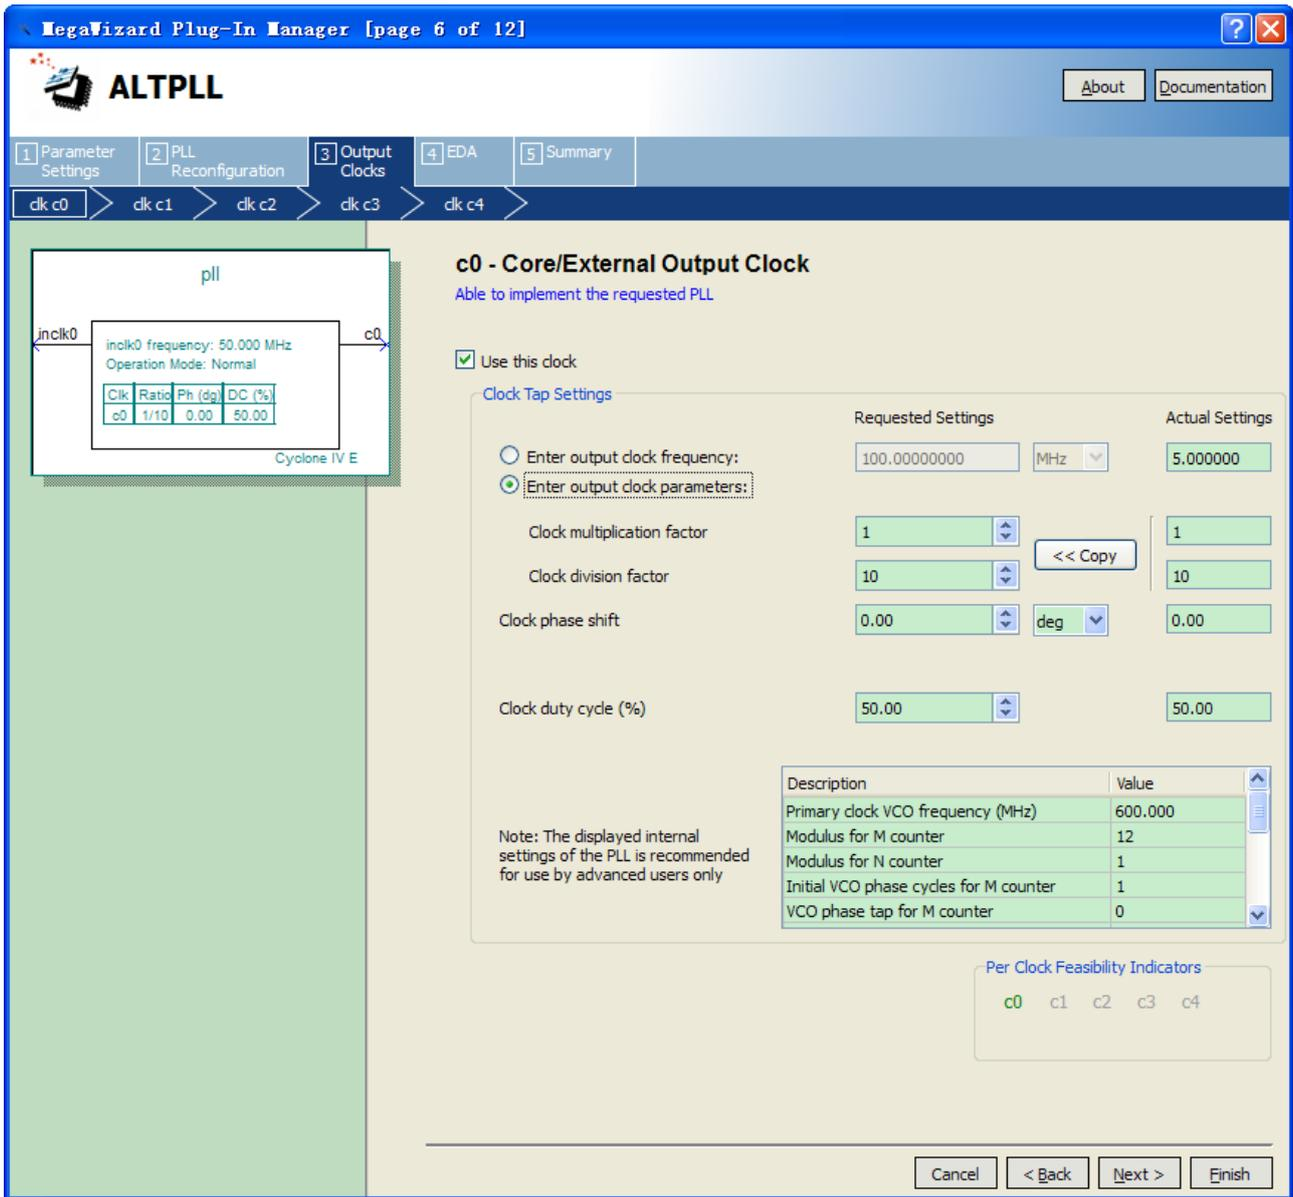

Figure 6-23 MegaWizard Plug-In Manager [page 8 of 14] Selections
8. Set the Clock division factor to 10, as shown in **Figure 6-23**.